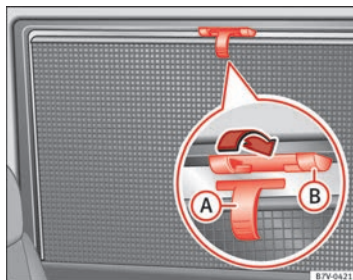

Fig. 64 On the rear right-hand window: sun blind.
- Pull the sun blind by the handle ⇒ fig. 64 (A) up to the top.
- Hook both rings of the fastening rod in the spaces provided (B). Check that the sun blind is securely hooked into the spaces provided when it has been lowered (B).
- To put the sun blind away, unhook it at the top and lower by hand ⇒ ①.